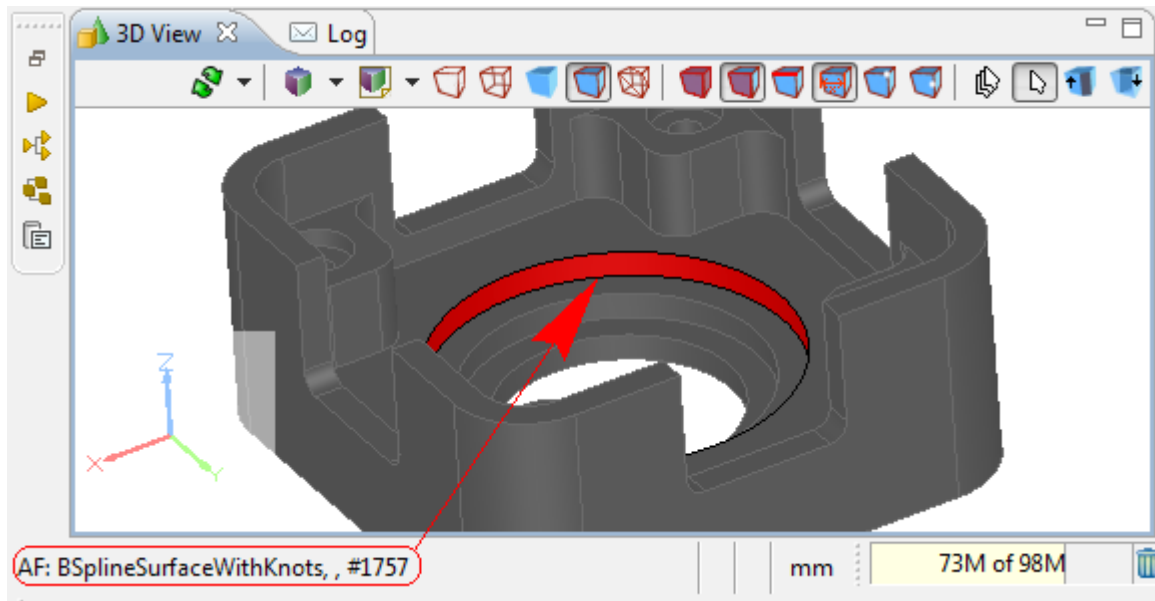

Figure 9. Selected Bspline surface
- Select a bspline surface in the **3D View**. The type of selected geometry is visible in the left bottom corner of the page (see Figure 9).